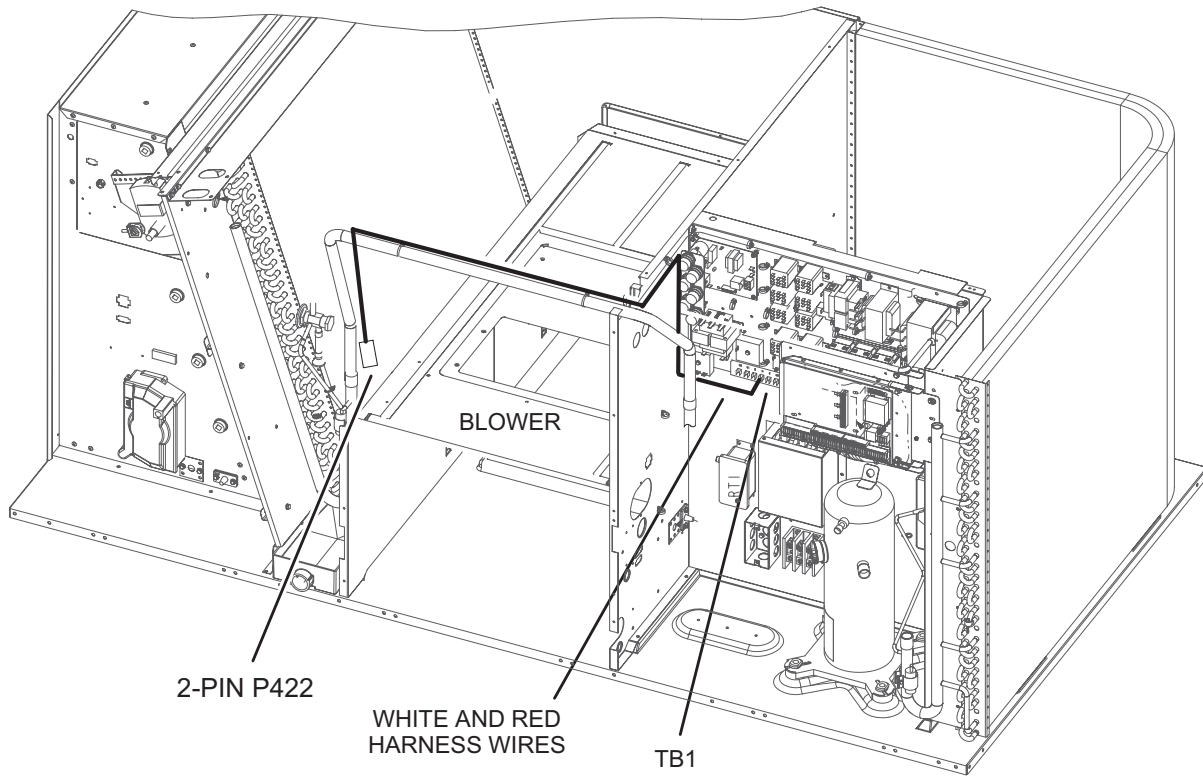
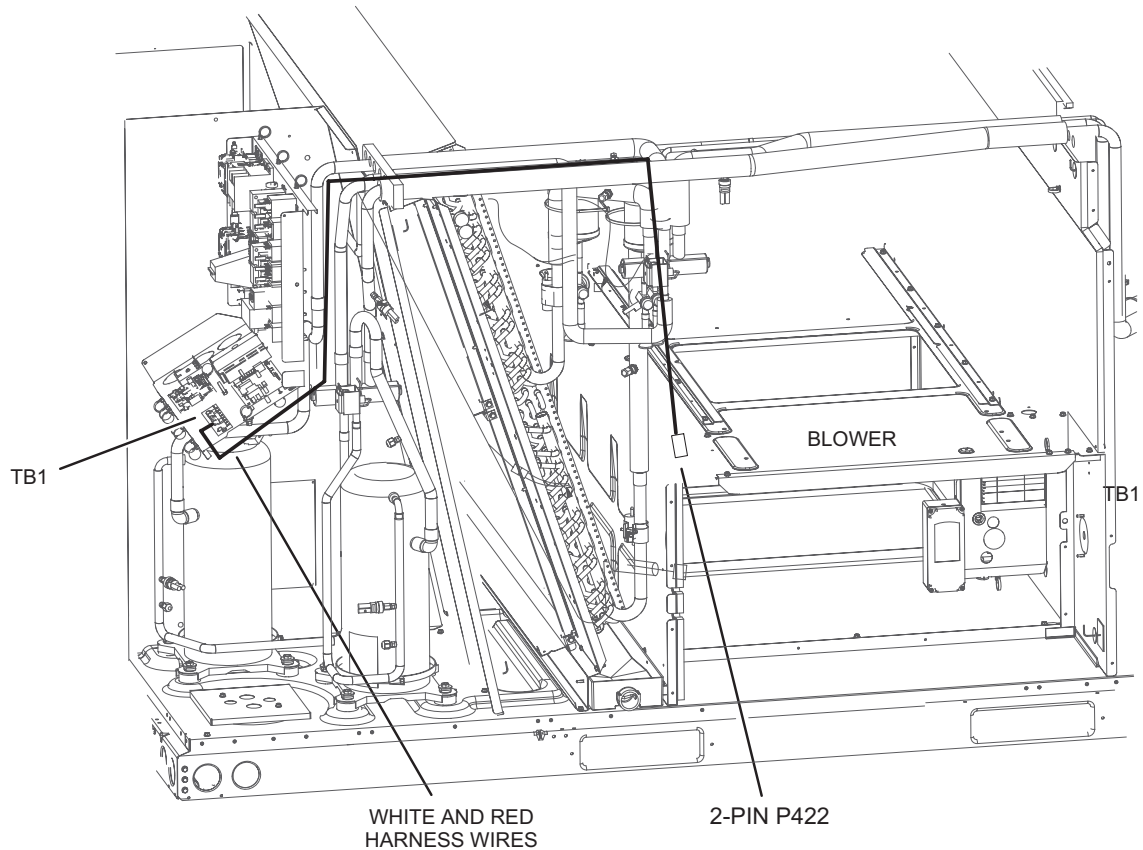
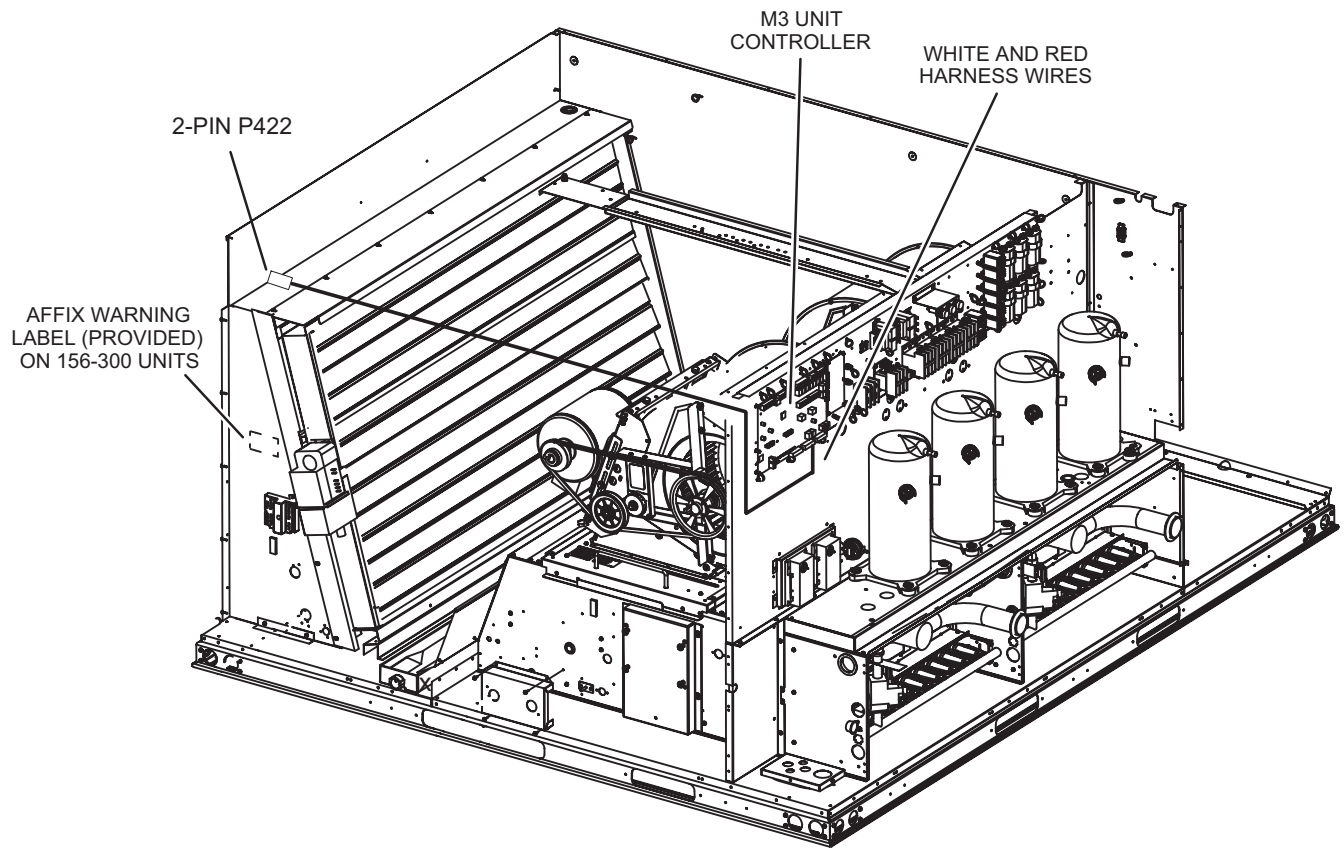

FIGURE 9
FIGURE 10
FIGURE 11
- 2 - Route the cut wire ends to the control area and the 2-pin plug to the filter or blower section. See FIGURE 9, FIGURE 10, or FIGURE 11. Secure with provided wire ties.